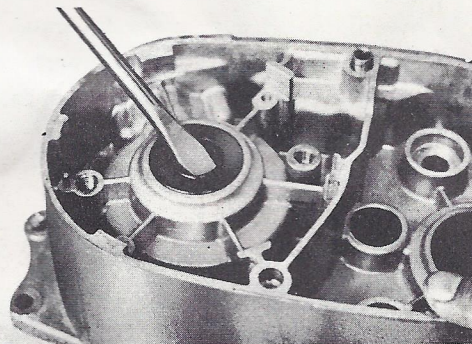

Fig. 3-17-2
- 1) Pry the oil seals out of place with a slot head screwdriver. (Fig. 3-17-2)